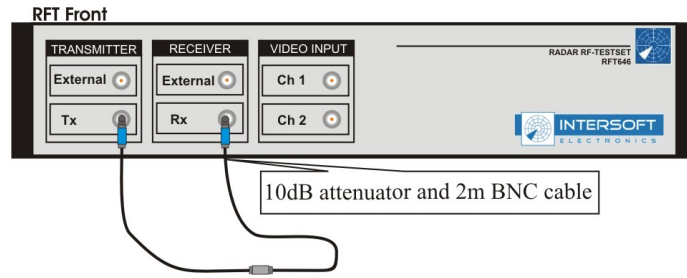

Figure 6: RFT646 connections for VNA transmission measurement
2. The first time the tool is started, it will automatically perform a reference measurement, it is therefore important that the device under test is removed and that the Tx and Rx are connected together with a barrel as shown in figure 6. Now start the tool by clicking the  **Start** button. You will notice that the  **Take Reference** button is automatically dimmed as well. When required you can always perform a reference measurement in between measurements by clicking the **Take Reference**
- Now the DUT or the transmission chain can be inserted as shown in figure 6. When the DUT is connected, it is probable that a measurement sweep was already taking place. The next sweep provides the correct result.
This paragraph shows an example of a transmission measurement. The DUT of the example is a transmission chain containing two 4m BNC RG223 cables, connected with a straight BNC barrel (total of 8m). Replace the BNC barrel in figure 6 with the two 4m cables when the reference measurement is done. The transfer function is presented in the frequency domain like a Bode diagram.
The connections are identical as shown in figure 6, the only difference is the DUT itself. Check Annex 6.1. for the full set-up diagram.